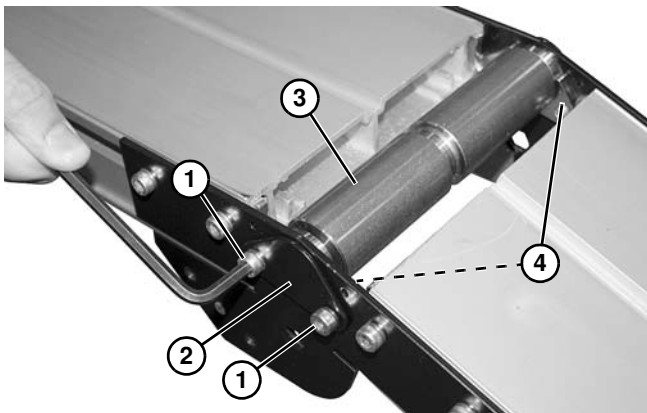

Figure 119
3. Remove two screws (**Figure 119, item 1**) and remove bearing cover (**Figure 119, item 2**) on both sides of knuckle.
4. Slide idler pulley (**Figure 119, item 3**) to one side of the conveyor, remove bearing housings (**Figure 119, item 4**), and then remove idler pulley from knuckle plates.